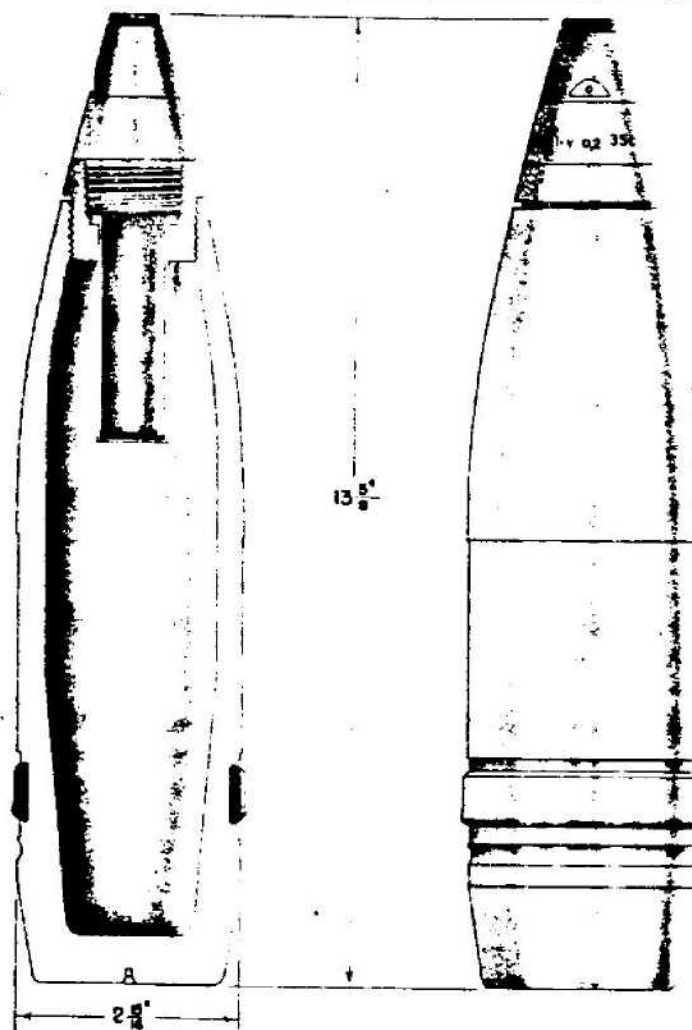

Figure 370—H. E. Projectile, Type 34, 75-mm Sprgr. Patr. KwK. (34)
**GERMAN NOMENCLATURE:** Sprgr. Patr. KwK (34) (Sprenggranate Patrone Kampf-wagenkanone 34). (See fig. 370.)